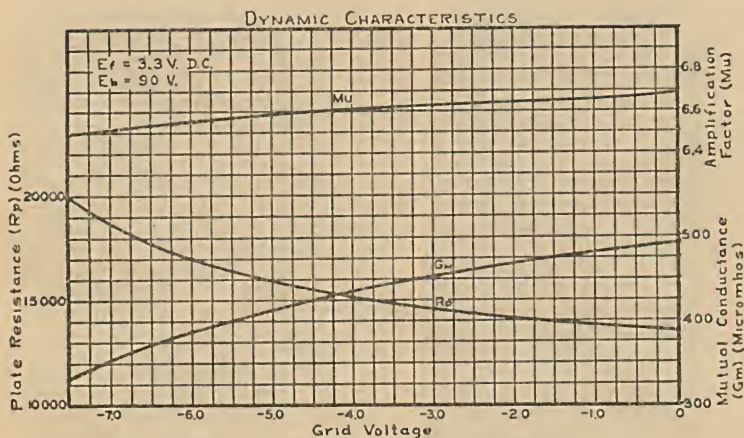

Fig. 4
**Dynamic Characteristics**—Fig. 4 shows the effect of grid voltage upon the amplification factor, mutual conductance and plate resistance.